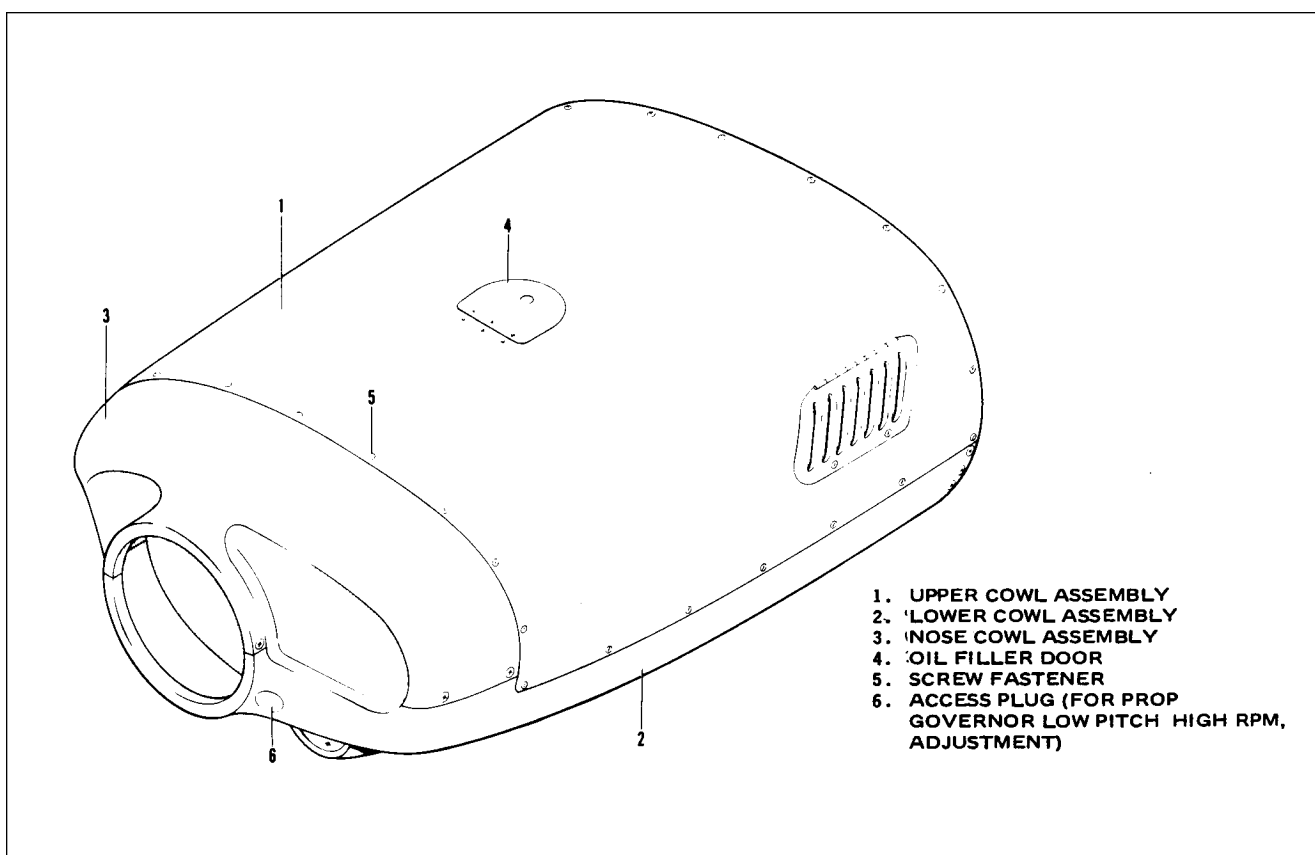

Figure 8-1. Engine Cowling Installation
8-5. REMOVAL OF ENGINE COWLING. (Refer to Figure 8-1.)
8-7. INSTALLATION OF ENGINE COWLING. (Refer to Figure 8-1.)
1. Land, shut down the engine and remove lower cowl access plug (See Figure 8-1.)